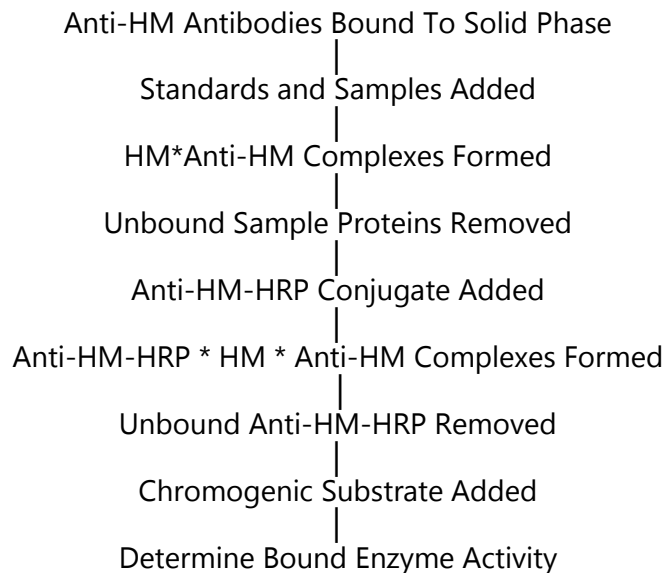

Figure 1.
The principle of the double antibody sandwich ELISA is represented in Figure 1. In this assay the Hemoglobin (HM) present in samples reacts with the anti-Hemoglobin antibodies which have been adsorbed to the surface of polystyrene microtitre wells. After the removal of unbound proteins by washing, anti-HM antibodies conjugated with horseradish peroxidase (HRP), are added. These enzyme-labeled antibodies form complexes with the previously bound HM. Following another washing step, the enzyme bound to the immunosorbent is assayed by the addition of a chromogenic substrate, 3,3',5,5'-tetramethylbenzidine (TMB). The quantity of bound enzyme varies directly with the concentration of HM in the sample tested; thus, the absorbance, at 450 nm, is a measure of the concentration of HM in the test sample. The quantity of HM in the test sample can be interpolated from the standard curve constructed from the standards, and corrected for sample dilution.